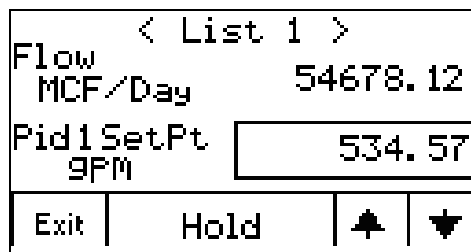

Figure 3-18. User List Parameters
**Note:** The Touchpad places a box around any parameter value you can edit (as with AO or DO points). See Figure 3-18.